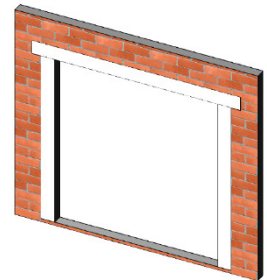

Figure 23:
2. At each jamb, embed the flashing paper into the sealant onto mounting flange and fasten into place. The flashing paper should be cut sufficiently long enough to extend at least 3 in. past the weep-screed or diado flashing and at least 6 inches above the head of the window (Figure 23).